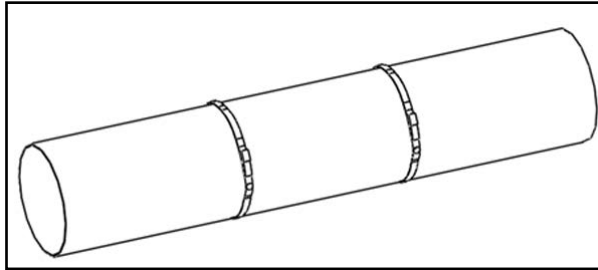

Figure 10: Mounting straps installed on pipe
- b. Install the two mounting straps on the pipe about 12 in. (30 cm) apart (see figure 10 below).